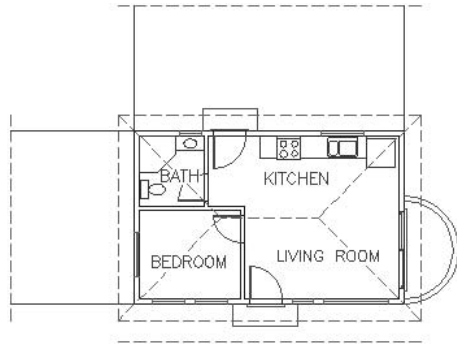

FIGURE 10.11: The first grid lines
5. Draw lines from the upper-left and upper-right corners of the exterior walls up to the horizontal offset line. Then draw lines from the left upper and lower corners of the exterior walls to the vertical offset line on the left (see Figure 10.11).